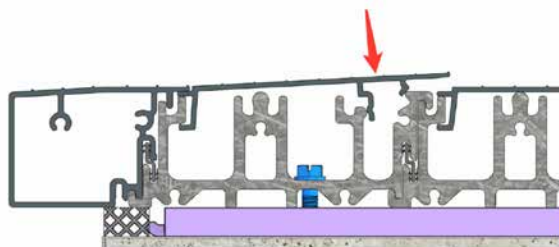

Fig 38
- If your door comes with a Raised Drain Cover (Sill Riser), it will have to be sealed at both ends against the jambs as shown in Fig. 38.